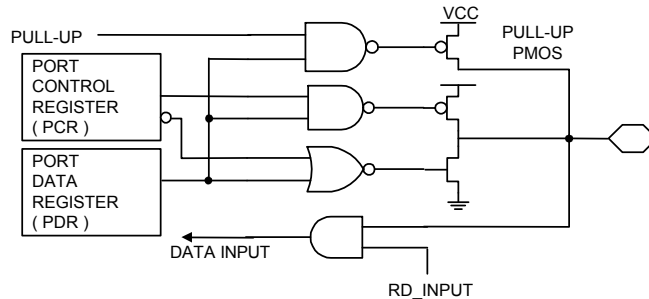

FIGURE 9-1 Port-A Block Diagram
Port-A contains pull-up MOS transistors controlled by software. When an I/O is used as input. The ON/OFF Of the pull-up MOS transistor will be controlled by port Data register (PA) and the pull-up MOS will be enabled With "1" for data bit and disabled with "0" for data bit. The PULL control bit of PMCR controls the ON/OFF of All the pull-up MOS simultaneously. Please refer to FIGURE 9-1.
When programmer enables INTX and PT interrupts, PA0 trigger occur. INTX and PT interrupts will therefore happen sequentially. Please refer to FIGURE 9-1.